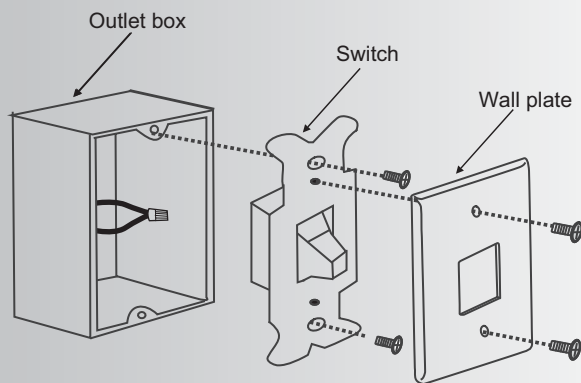

Fig. 19
Step 1. Remove the existing wall plate and the old switch from the wall outlet box. Wire nut the **BLACK** leads (hot) together and push back inside the outlet box. (Fig. 19)